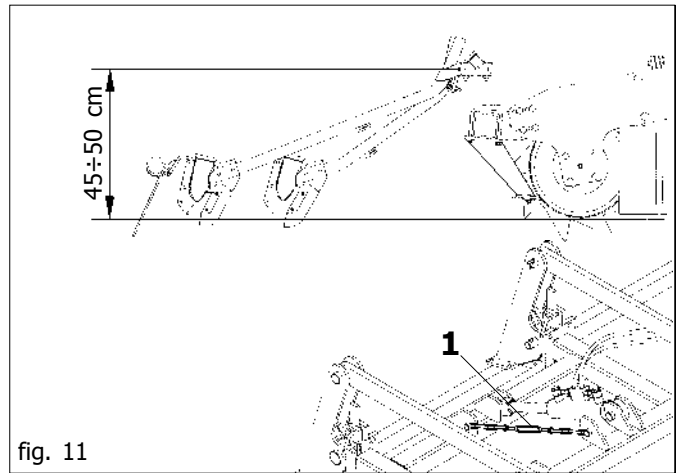

fig. 11
- 2) After having set the machine for the desired working conditions (earth-working depth, wear of the teeth, etc.), it will be necessary to position the seeding cutting-arm at a height from the ground of 45 – 50 cm (Fig. 11), by regulating the lower end-travel stop by means of the chain tighteners (1 Fig. 11).